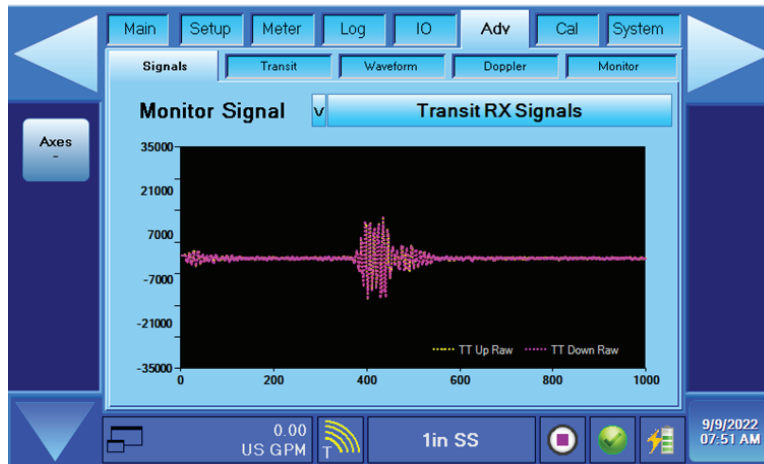

Figure 114: Signals tab
8. The waveform will look smaller and noisier, which is normal. See Figure 114.